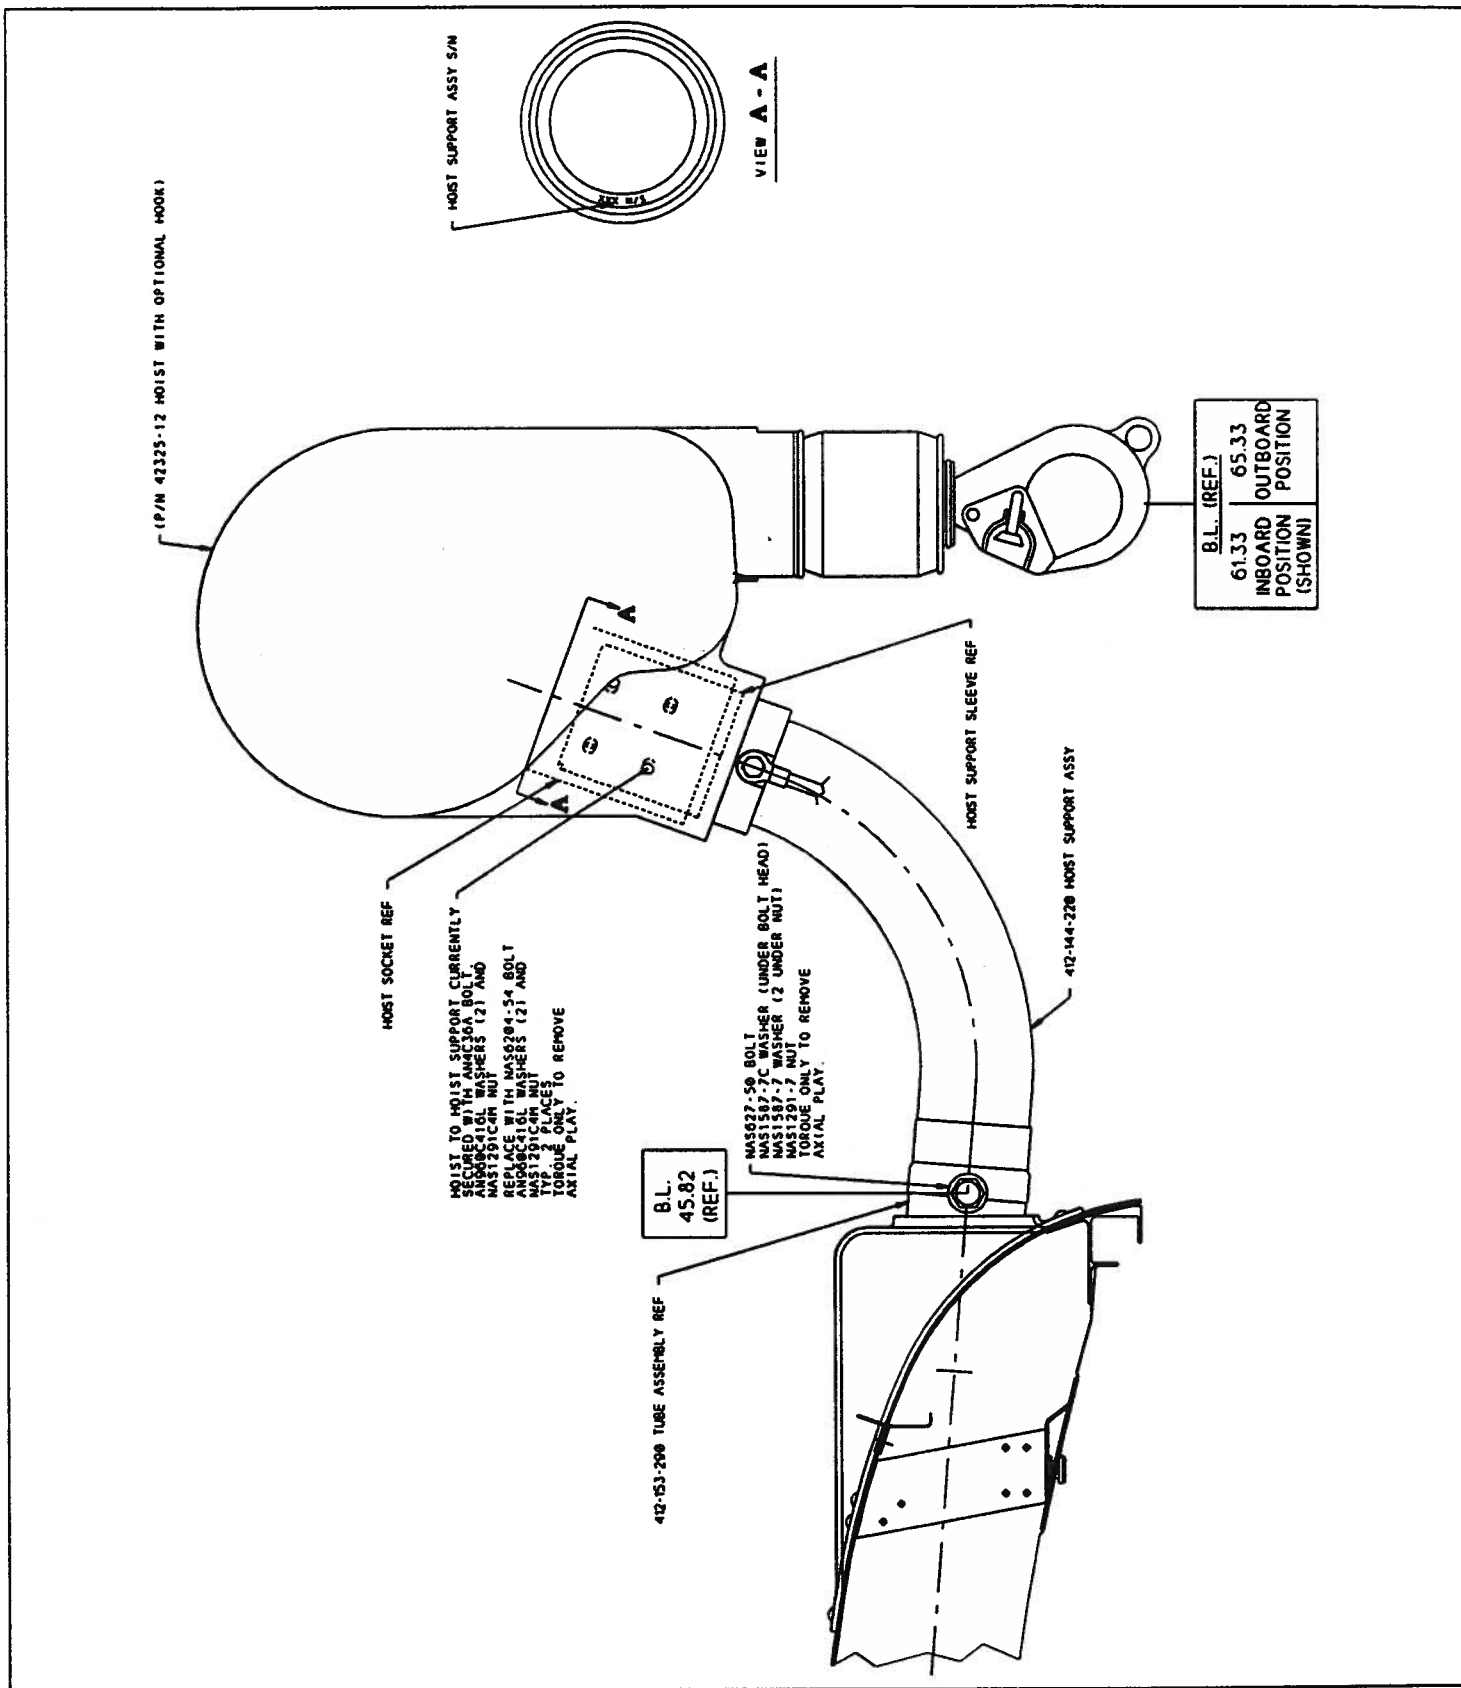

Figure 1
2. Remove the Bolt (NAS627-50), Nut (NAS1291-7) and Washers (NAS1587-7C, under Bolt head), (NAS1587-7, two under Nut) securing the Hoist Support Assembly (412-144-220) to the Tube Assembly (412-153-290). Refer to Figure 1. Discard the Nut and retain the hardware remaining for reinstallation.
7. Slide the Hoist Support Assembly out of the Hoist Socket. Record Hoist Support Assembly Serial Number (location shown in Figure 1) in appropriate section of Appendix A.
Hoist Support Assy (412-144-220) Serial Number (See Figure 1):